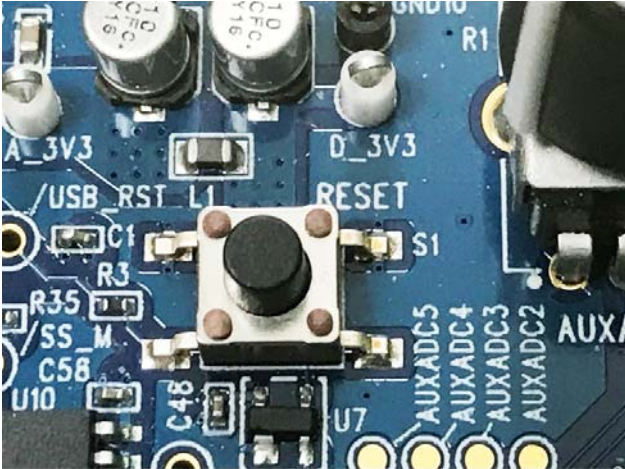

Figure 74. Manual **RESET** Push-Button
2. Press and release the **RESET** push-button (S1) (see Figure 74).
To manually reset the ADAU1452 and AD1938, press and release the **RESET** push-button, S1 (see Figure 74). A reset generator circuit toggles the reset pins on the ADAU1452 and AD1938 to perform a full hardware reset of both devices.